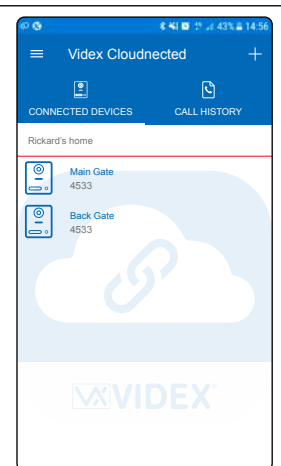

Fig. 26 If the binding is successful the system is listed
- After a short delay, if the binding is successful, the main screen of the APP should list the installation to which the videophone is connected (**Fig. 26 on page 21**). After this the APP is ready to work